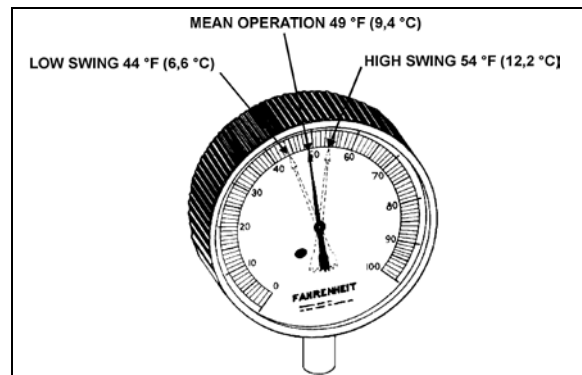

FIGURE 34: HIGH & LOW SWING TEMPERATURE AT REMOTE BULB22047
6. Check approximately 5 readings of pressure at 2-minute intervals and convert to temperature using the temperatures & pressures table. Likewise check the temperature reading at the remote bulb at the same 2-minute intervals and record the low and high swing readings of the needle (refer to Fig. 34).